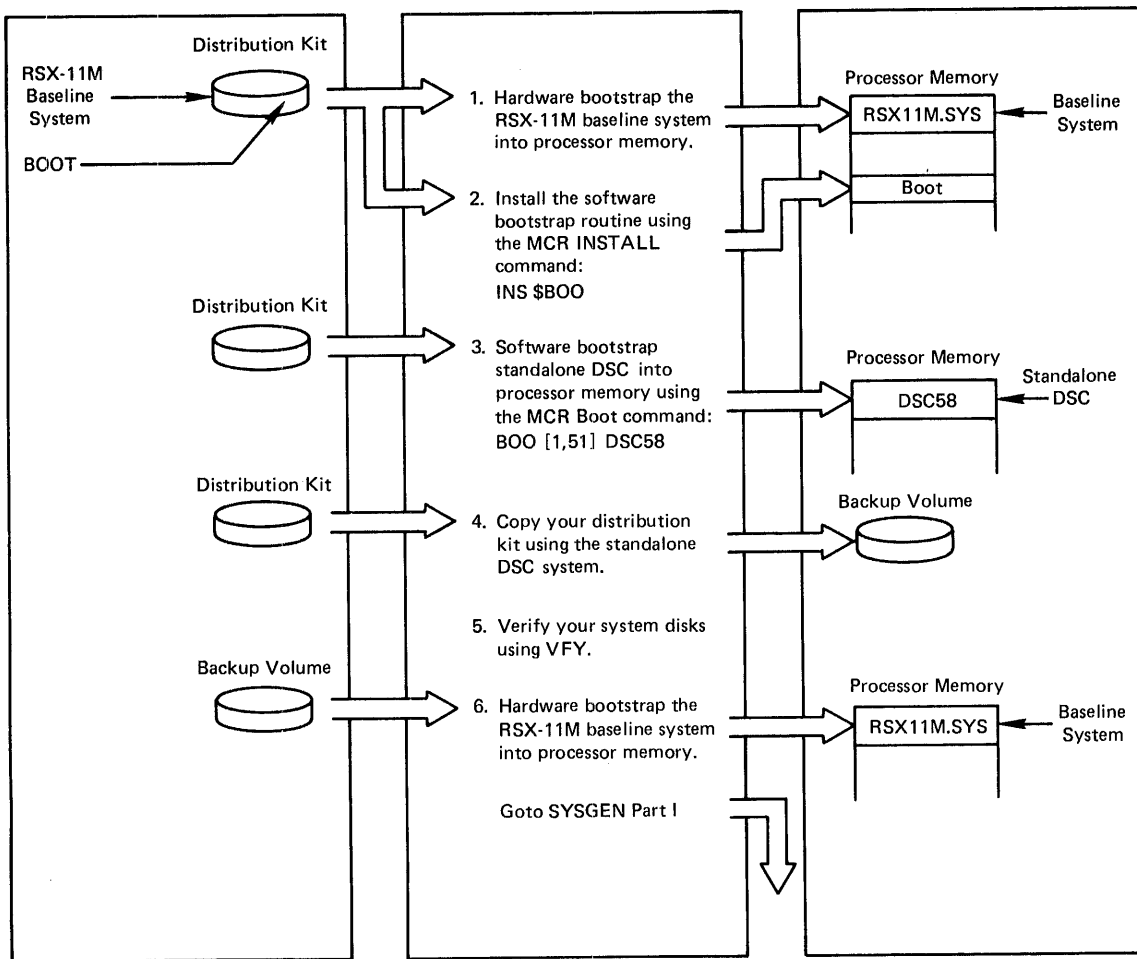

Figure 2-2 Copying Disk Distribution Kits
You can back up disk distribution media to either disk or tape backup volumes. Figure 2-2 outlines the procedure for creating a backup copy of disk distribution media.
**Step 1** in Figure 2-2 is to hardware bootstrap the RSX-11M baseline system into processor memory to control the system resources while SYSGEN is executing.
**Step 2** in Figure 2-2 is to install the MCR BOOT command (the software bootstrap routine) into memory. Using the BOOT command, you can bootstrap the standalone version of DSC into processor memory. You then use DSC to copy the kit. To install BOOT, enter the command line:
**Step 3** in Figure 2-2 is bootstrapping the standalone version of the Disk Save and Compress Utility (DSC) into processor memory. DSC provides the functions required to back up and restore data on the RSX-11M distribution media. (For a complete description of DSC functions, refer to the RSX-11 Utilities Manual.)
**Step 4** in Figure 2-2 is copying the disk distribution media to disk using DSC. The following is the general format for entering DSC command lines to copy from disk to disk:
**Step 5** in Figure 2-2 is to verify the integrity of the disks you are using for system generation. Use the File Structure Verification Utility (VFY) to ensure the integrity of these disks. (The RSX-11 Utilities Manual provides details of all the functions performed by VFY.)
**Step 6** in Figure 2-2 is to hardware bootstrap the RSX-11M baseline system into processor memory to control the system resources while SYSGEN is executing.